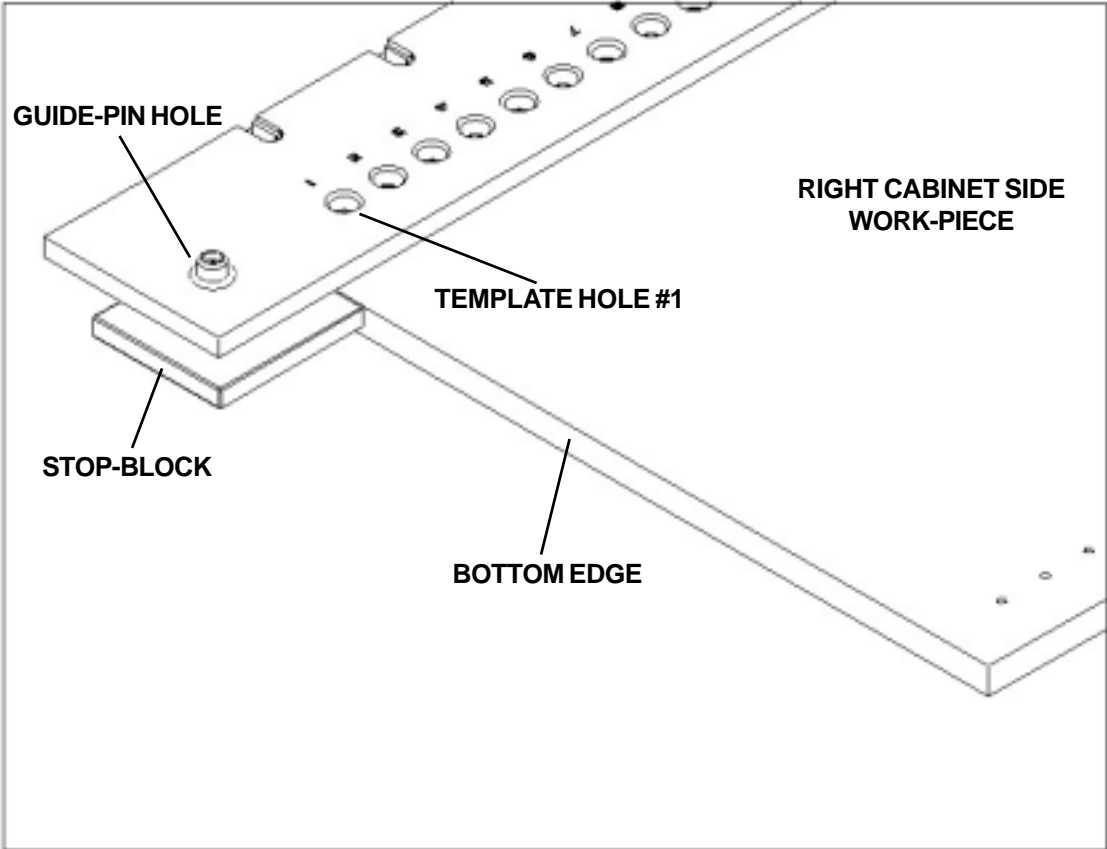

Figure 9
- 1. Position the hole-boring template so that the hole marked 1 is now at the bottom edge of the work-piece as shown in Figure 9.
- 2. Attach the stop-block in the guide-pin hole that is near the number one hole of the template as shown in Figure 9.